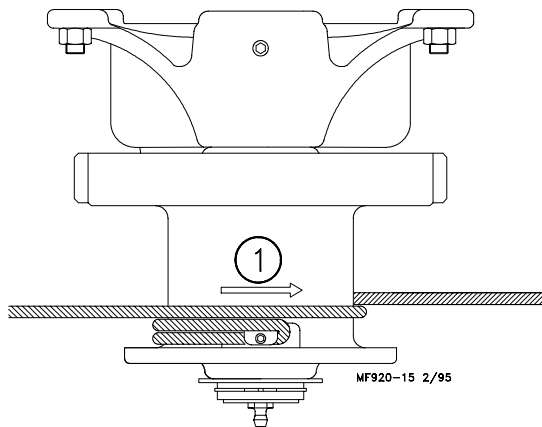

Figure 24. (Winch End View)
5. Turn the winch drum one full revolution. Guide the cable against the flange at the bottom of the winch drum. The cable must not wrap over itself on the drum, but should be wrapped as close as possible to each previous wrap. See Figure 24.